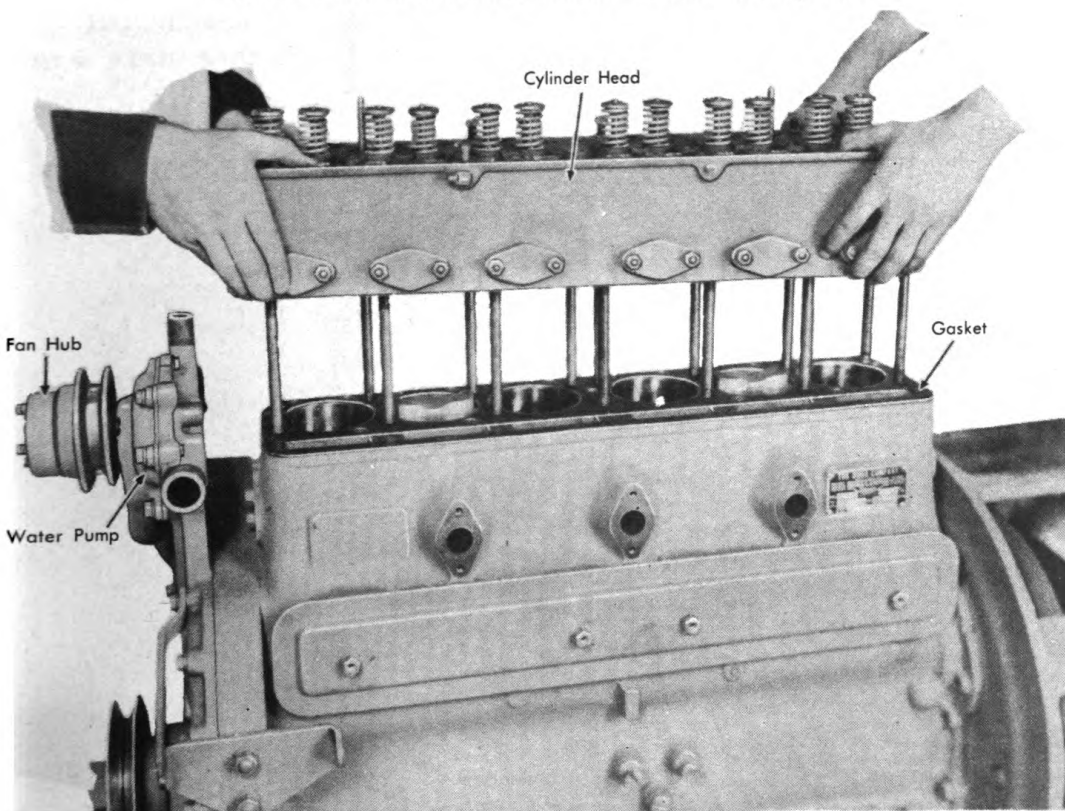

Figure 116. Removing Cylinder Head.
12. Remove the cylinder head. See Figure 116.